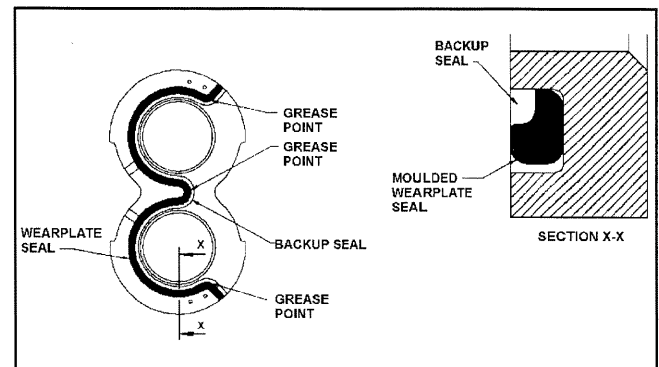

Figure 6: Moulded Backup with Seal Type Wearplate
There are two current types of backup seal, namely Moulded Backup with seal and Moulded Backup with cord seal. Refer to Figures 6 and 7.
1. Apply grease to the three positions shown on Figure 6 before inserting the seals in position.
2. Fit the moulded rubber seal into the wearplate groove with the flat face at the bottom of the seal groove as shown in Figure 6.